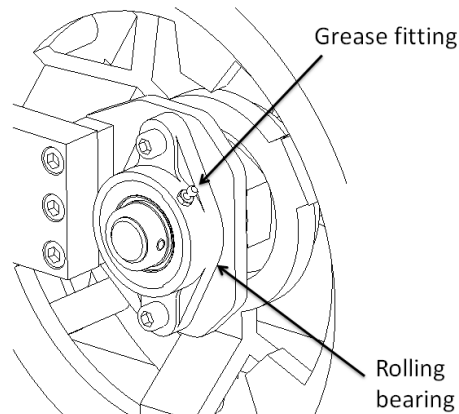

Figure 17 : Rolling bearing grease fitting location
1. Clean the grease fitting with a rag (see Figure 17).